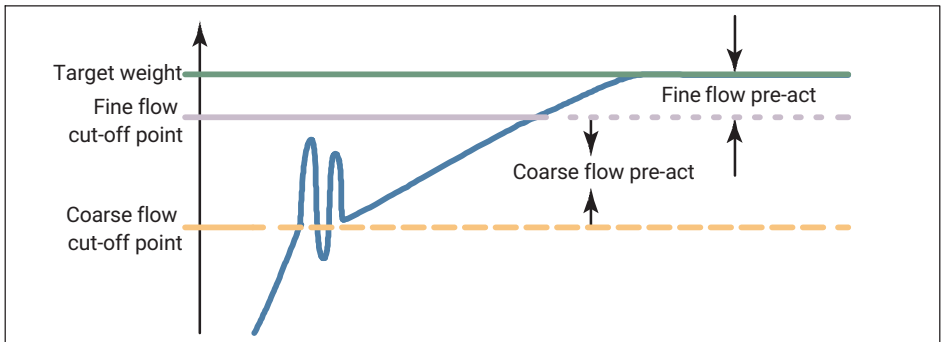

Fig. 5.5 Definition of cut-off point and pre-act
**Pre-act:** For the coarse flow cut-off point, you must subtract the pre-act value from the fine flow cut-off point. Rule (see also Fig. 5.5 on page 38):
**Pre-act:** For the fine flow cut-off point, you must subtract the pre-act value from the target weight. Rule (see also Fig. 5.5):